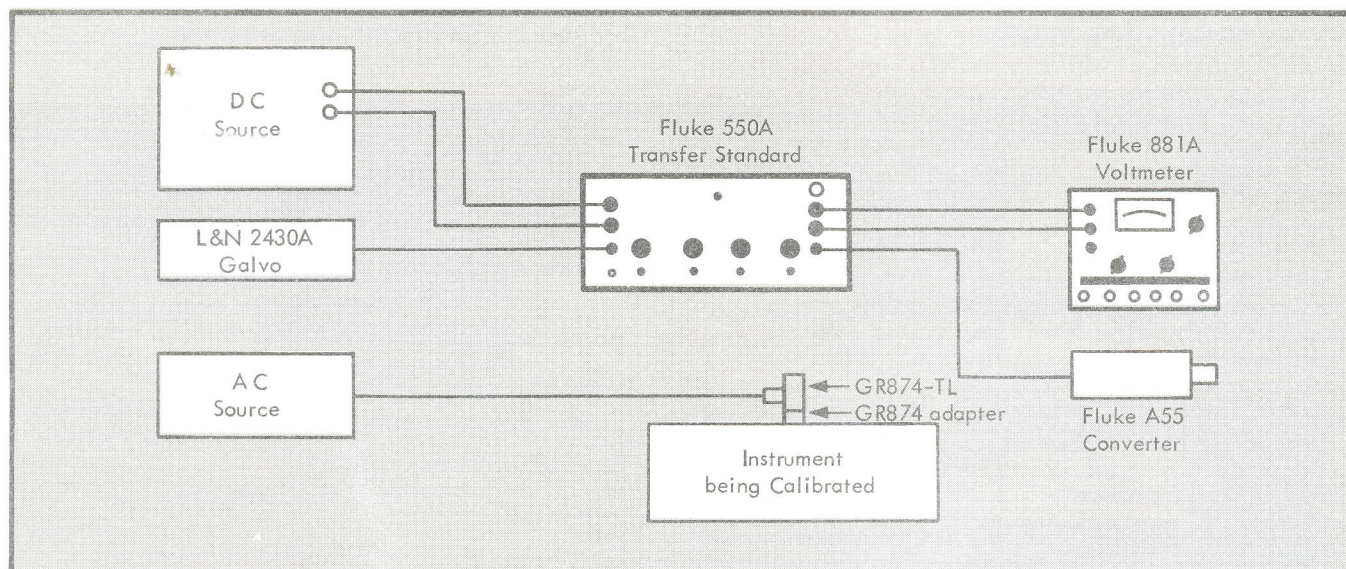

Figure 2-3. VOLTAGE CALIBRATION SETUP DIAGRAM
- Connect the equipment as shown in Figure 2-3. The dc source must be floating. The thermal converter used must have a voltage rating that is equal to or greater than the rms value of voltage being measured.